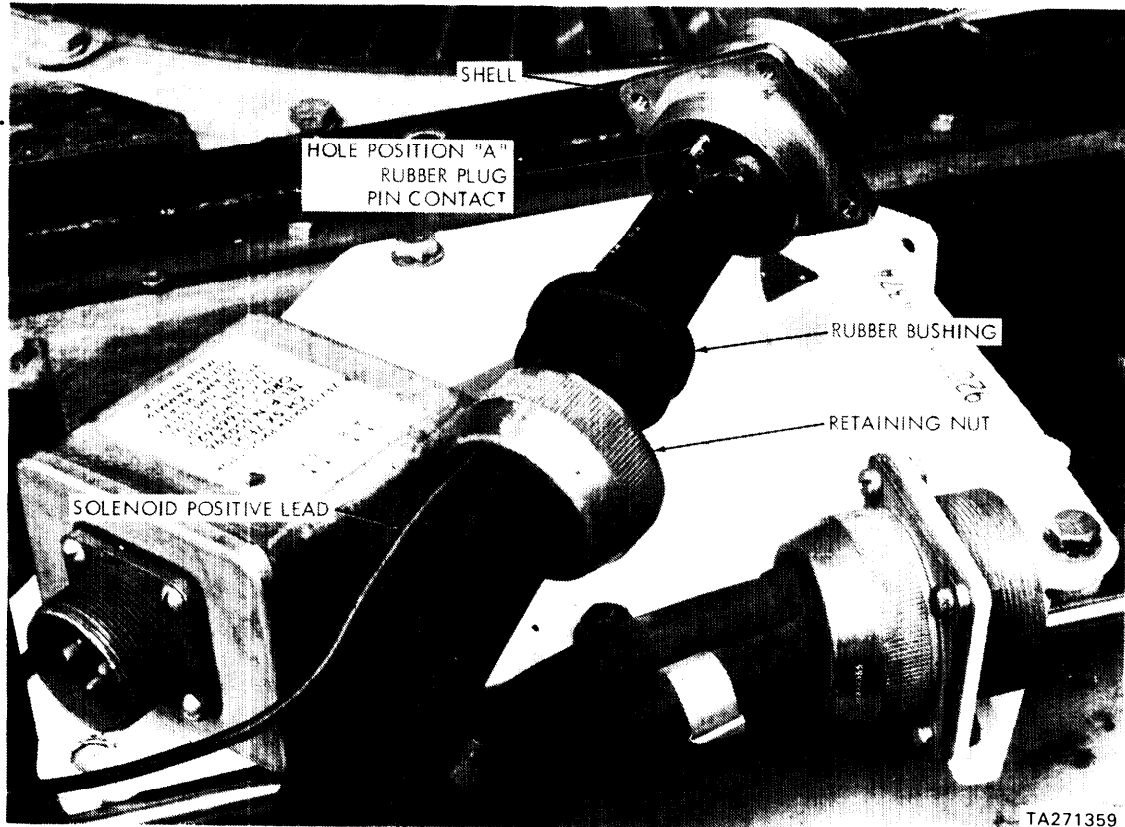

Figure 23. Installing Solenoid Positive Lead in Starter Harness/Receptacle
(16) Unscrew retaining nut from positive starter harness receptacle connector and slide rubber bushing back over cables (figure 23). Silicone compound (MIL-S-8660) may be applied to cables to help bushing slide.
(17) Remove existing rubber plug and pin (male contact) from hole position 'A' (CKT 920A) of receptacle shell (figure 23).
(18) Apply silicone compound to solenoid positive lead and pin and thread through retaining nut and bushing and insert pin into shell position 'A' (Figure 23).
(19) Slide rubber bushing up against shell and install retaining nut (figure 23).